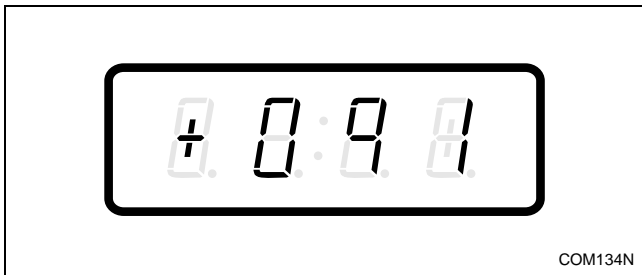

Figure 139
- Press the DELICATES (+) or the COLD (-) keypad to scroll through the programmable options until “+091” appears in the VFD. Refer to *Figure 139*.